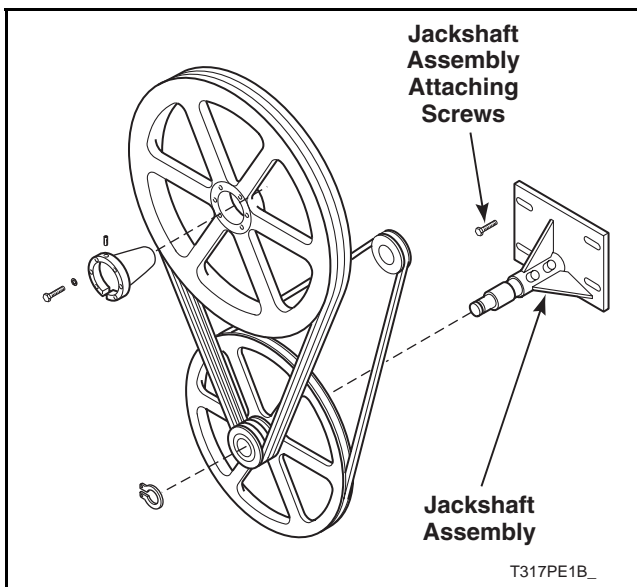

Figure 26
- b. Loosen the four jackshaft assembly attaching screws. Refer to *Figure 26*.